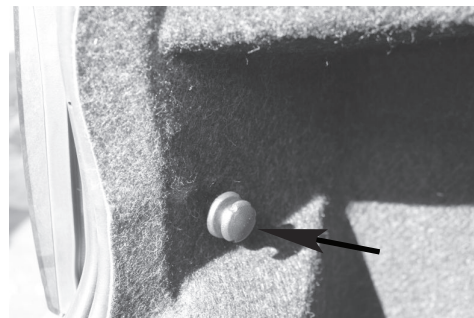

Figure 2
3. Remove the cargo net plastic screws on each side of vehicle shown in **Figure 2**.